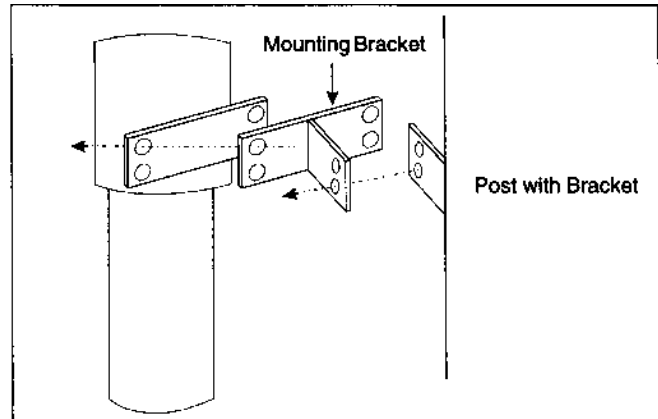

Figure 11 - Power Unit Installation
1. Attach the power unit bracket to the mounting bracket on the pump side post with 5/16x7/8 inch bolts and locking nuts. Mount the power unit to the bracket (motor up, tank down) with 4 (four) 5/16x7/8 inch bolts and locking nuts. Refer to Figure 11.